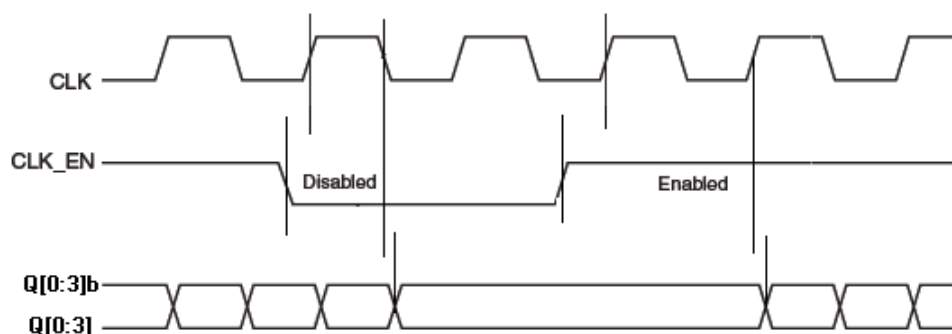

Figure 3. CLK_EN TIMING DIAGRAM
1. After CLK_EN switches, the clock outputs are disabled or enabled following a rising and falling input clock edge as show in Figure 3.